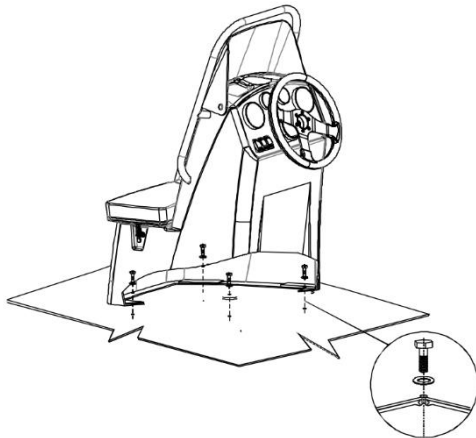

Fig. 7. Installation of steering console CL-11.
- Fix steering console to the deck by means of bolts M8*25 and toothed lock washer (fig. 7).